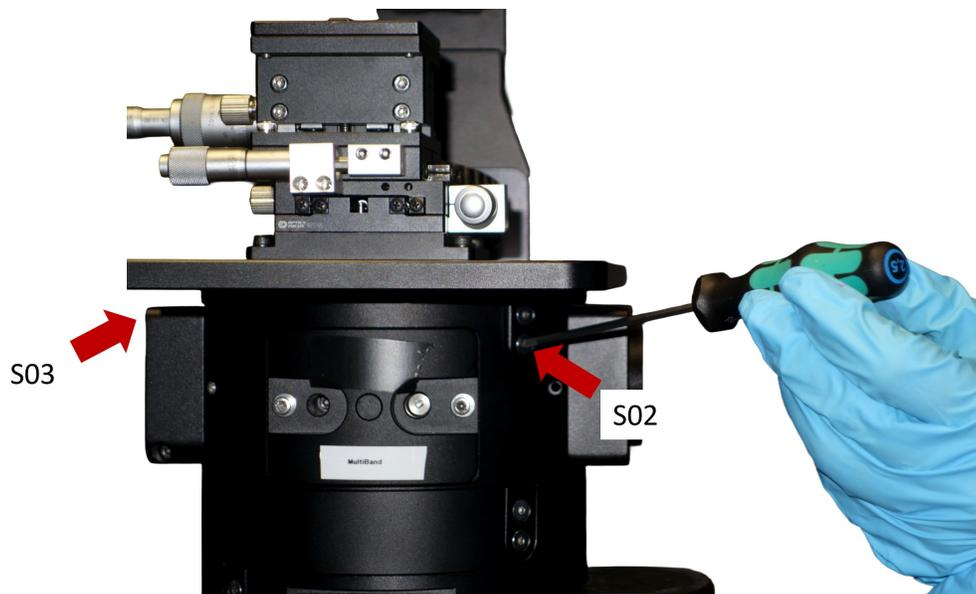

Figure 5: Tightening screws (S02 and S03) to secure the stage with 2.5mm Hex key driver (T03).
4. Tighten S02 and S03 using the 2.5mm Hex key driver (T03) (Figure 5).